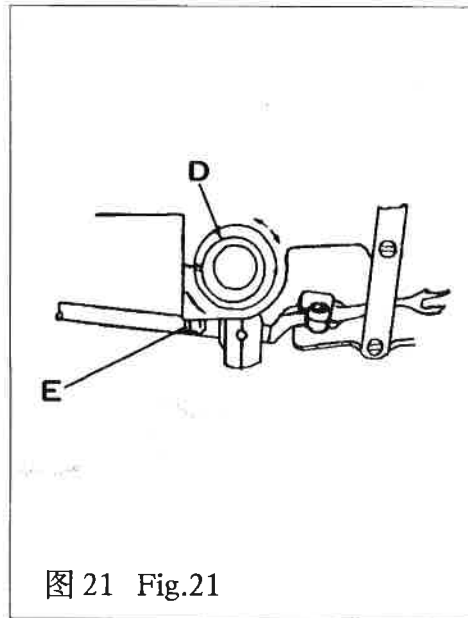

图 21 Fig.21
①旋松紧固螺栓“E”,左右移动偏心支承套“D”,达到上述要求时,旋紧紧固螺栓“E”(图 21)。
①Loosen set bolt "E", move the eccentric supporting sleeve "D" rightward and leftward, and tighten the set bolt "E" (Fig.21)
①旋松紧固螺栓 “E”(图 21),周向转动偏心支承套 “D”, 使钩线叉在右端时达到上述要求。
①Loosen set screw "E" (Fig.21) and turn the eccentric supporting sleeve "D" so that when the thread hook is at the right end may comply with the above-said requirements.